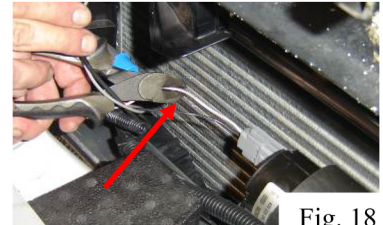

Fig. 18
37) Remove the plastic loom on the coolant pump harness and locate the white and red wire. This wire will have battery voltage when the pump is activated. Cut this wire approximately 2" from the pump connector (Fig. 18).